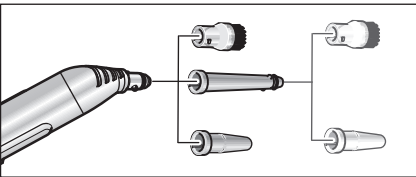

Figure 6: Attachments for the detail nozzle
- To increase the cleaning performance when working with the detail nozzle (D1), you may use it with the extension (D2), the round brush (D3), or the power nozzle (D4) (see Figure 6). Line up both grooves of the attachment with the pins of the detail nozzle. Turn the attachment clockwise until it locks into place.